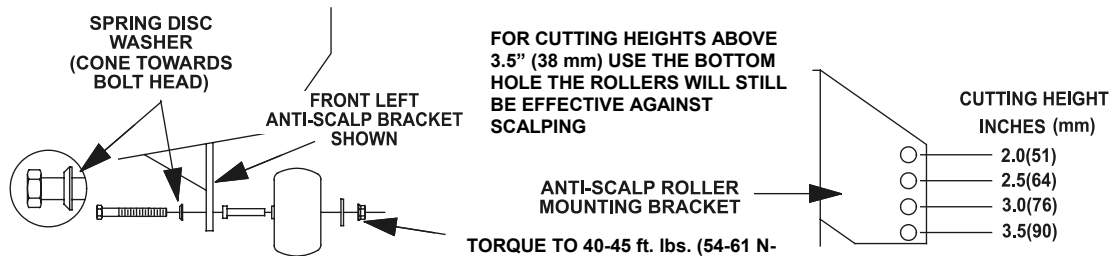

FIGURE 6
- g) Adjust anti-scalp rollers for Normal Operating Conditions. Stop engine, wait for all moving parts to stop, and remove key. Place rollers in one of the positions shown in Figure 6. Rollers will maintain 3/4 in. (19 mm) clearance to the ground to minimize gouging and roller wear or damage.